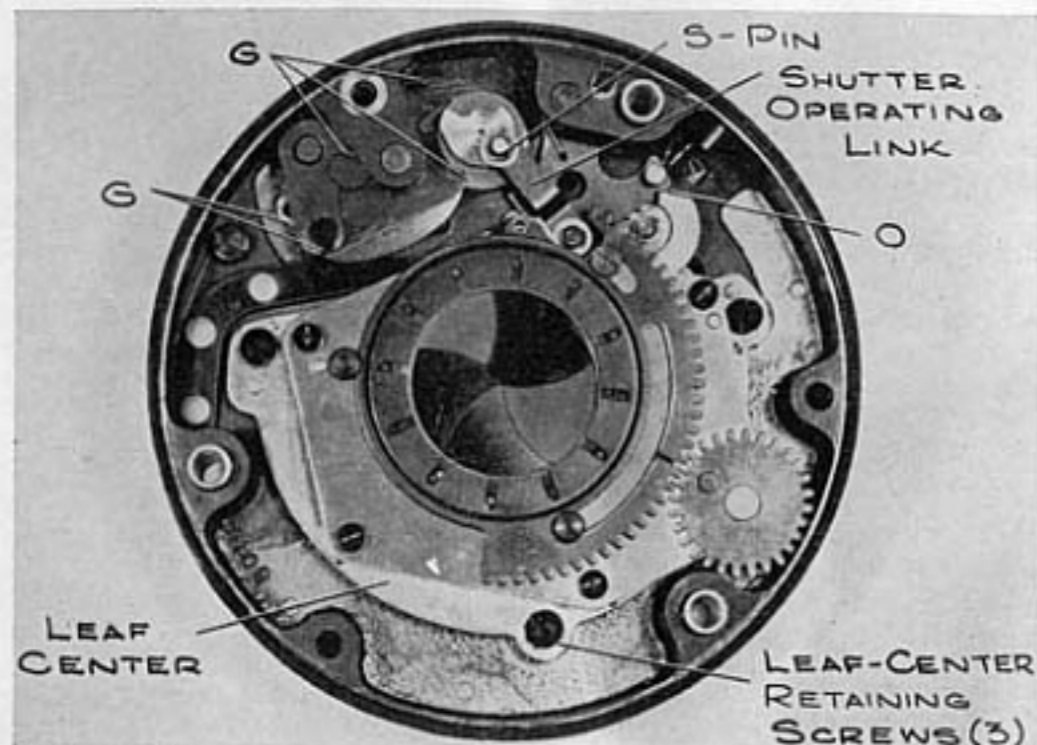
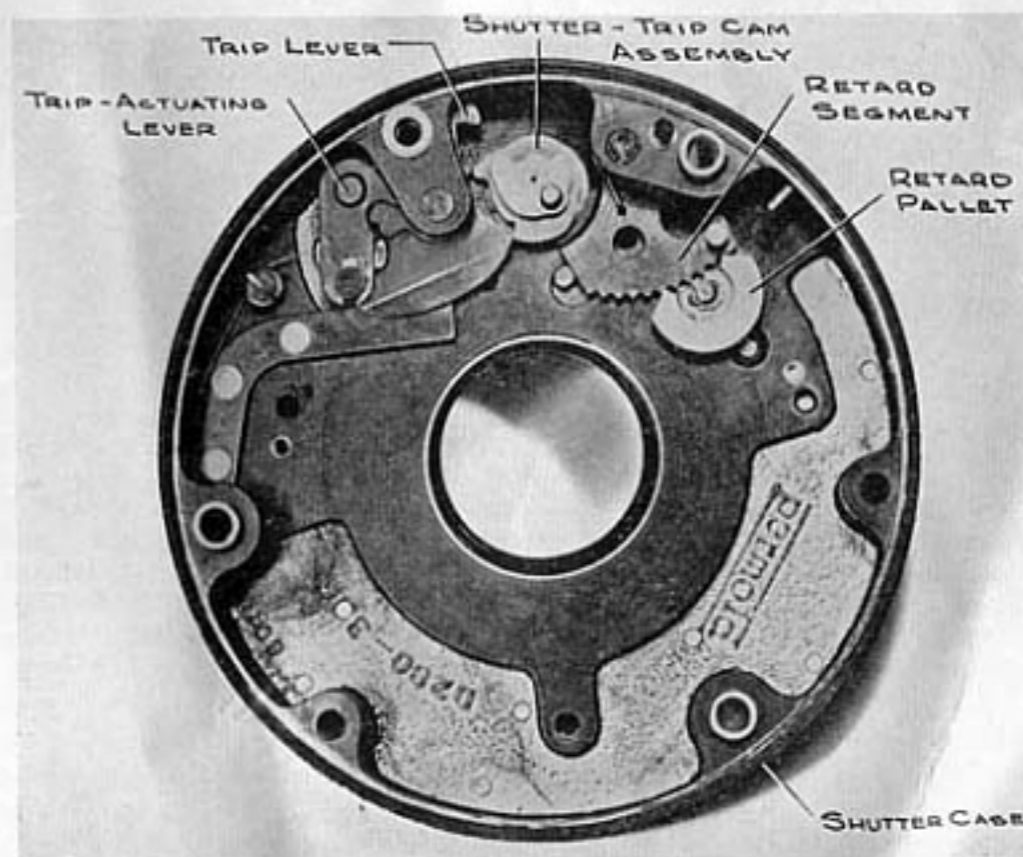

Figure 10—Lubrication—Interior of Shutter
Figure 15—Shutter Case—Interior View
(1) Oil and grease should be placed at the points indicated by "O" or "G" in figures 10 and 11, or where otherwise stipulated. Use only the oil and grease specified, as variation from specifications will cause trouble at low temperatures.
(2) The oil specified is Oil, Lubricating, for Aircraft Instruments and Machine Guns, U. S. Army Specification No. 2-27.
(3) The grease specified is Grease, High Melting Point, AAF Specification No. 3560, soft grade.
(4) When applying lubricants use them very sparingly and take extreme care to remove all excess.
b. Shutter. (See figures 10 and 11.)
(1) The shutter should be lubricated every 6 months, or after approximately every 5000 operations.
(2) A thin film of grease, AAF Specification No. 3560, should be applied only at the points indicated, and a fraction of a drop of oil, U. S. Army Specification No. 2-27, should be carefully applied to the teeth of the retard segment. (See figure 15.)
(3) To lubricate the leaf center, remove the S-pin and the three leaf-center retaining screws. Lift out leaf center and put a fraction of a drop of oil, U. S. Army Specification 2-27, on each of the five shutter-leaf pivots, wiping off all superfluous oil immediately. The leaf center must not be disassembled.
(1) Remove the spring housing (K20B-376) from the shutter case-and-cover assembly (K20D-F2). Add the spacer (K20B-608) to the shutter-trip cam assembly (K20C-F39), and apply a thin film of grease, AAF Specification No. 3560, soft grade, to the shaft of the assembly. Insert the shaft of the shutter-trip cam assembly (K20C-F39) through the cam-shaft bushing (K20B-373) which has received a thin film of grease, AAF Specification No. 3560, soft grade. Coat the base of the lower spring cup (K20B-374) with a thin film of grease, AAF Specification No. 3560, soft grade, and secure to the cam-shaft (K20B-372) with taper pin (F76-60-5). Add the cam-shaft collar (K20B-475), shutter spring (K20B-530) and the upper spring cup (K20B-370). Apply a thin film of grease, AAF Specification No. 3560, soft grade, to the face of the upper spring cup (K20B-370). Place the spring housing (K20B-376) over the shutter-cam shaft assembly (K20B-317), and secure with four screws (F6-63RP) and four lock washers (AN935-6). Add the wind-coupling spacer (K20B-473) and the spring clip (F78-4). To the side of the spring housing (K20B-376) add the following: the wind-stop pin (K20B-375) which has received a thin film of grease, AAF Specification No. 3560, soft grade, wind-stop pin spring (K20B-471) and screw (F11-E82).
(2) In the shutter case (K20D-366) (*figure 15*), position the following in order: spacer (K20B-414), snubber assembly (K20B-F16), shim (K20B-415), shutter-cam stop pawl (K20C-416), two shims (K20B-415), trip lever (K20B-740) and the shims (K20B-415) (1, 2, or 3 as required). Then add the snubber-cam stop retard-segment shaft (K20B-410) to which a small drop of oil, U. S. Army Specification No. 2-27, has been added. Add a thin film of grease, AAF Specification No. 3560, soft grade, to the working surfaces of the trip lever (K20B-423), trip cam (20B-419), and to the stopping surfaces of the shutter-cam (K20B-420).
(3) Position the following in the shutter case (K20D-366): retard-segment spacer (K20B-469), retard-segment assembly (K20B-F41), retard-segment spacer (K20B-628) and retard-segment spring (20B-465). Then add the snubber-cam stop retard-segment shaft (K20B-410), which has received a small drop of oil, U. S. Army Specification No. 2-27. Position the retard pallet (K20B-470) on the retard-pallet stud (K20B-367) to which a small drop of oil, U. S. Army Specification No. 2-27, has been added; and secure with washer (K20B-534) and S-pin (K20B-629).
(4) Remove the trip coupling (K20B-409) from the trip shaft assembly (K20C-F14), and insert the trip shaft (K20B-408) of the remaining assembly into the bearing of the shutter case (K20D-366) which has received a film of grease, AAF Specification No. 3560, soft grade. Then secure the trip coupling (K20B-409) to the trip shaft (K20B-408) with taper pin (F76-60-7). Add the shutter-cam stop pin (K20B-424) to the trip-actuating lever (K20B-406).